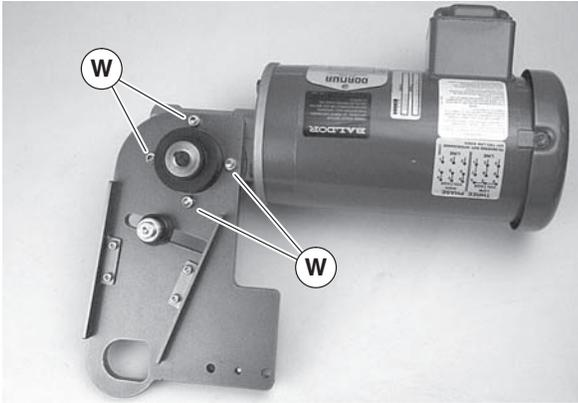

Figure 4
- If required, change gearmotor position by removing four (4) screws (Figure 4, item W). Rotate gearmotor to other position and replace screws (W). Tighten to 103 in-lb (12 Nm).